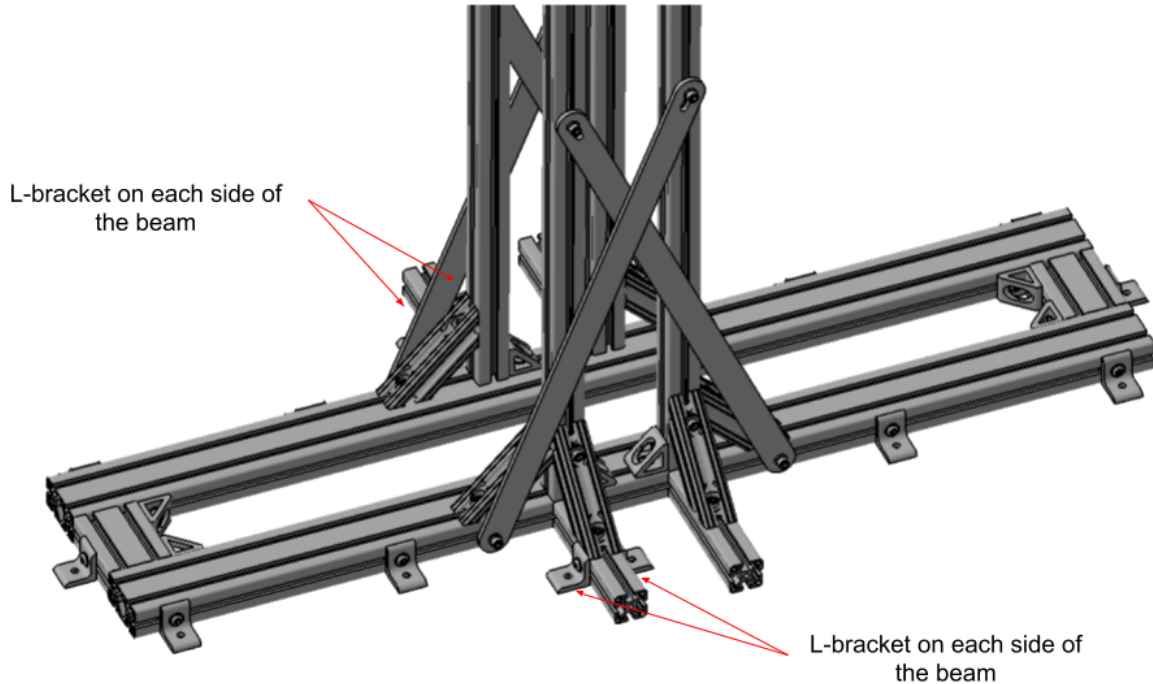

Fig. 4.22: Attach L-brackets (#KPHT) to the support.
- ❑ Slide four L-brackets into the T-slotted frame 7" (#NWGF) on the left and right side. Do this for **ONLY ONE** stand that you wish to completely fix to the ground. Do NOT install the L-brackets to another stand because you may need to allow free linear movement to adjust the axial distance. See Fig. 4.22: